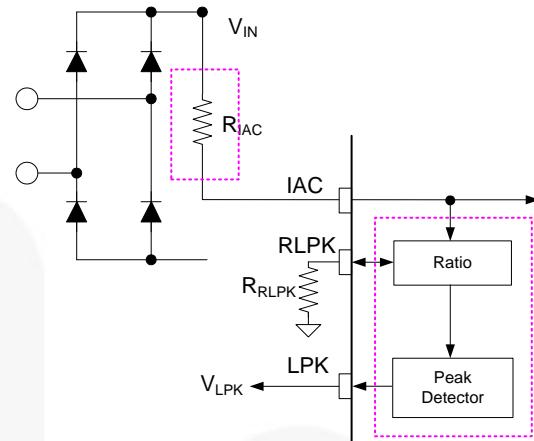

Figure 29. Relationship of $V_{IN.PK}$ to V_{LPK}
The relationship of $V_{IN.PK}$ to V_{LPK} is shown in Figure 29. The peak detection circuits detect the V_{IN} information from I_{AC} . RLPK sets the ratio of V_{IN} to V_{LPK} via a resistor R_{RLPK} , as described in Equation (8). The target value of V_{LPK} is one percent (1%) of $V_{IN.Pk}$. The maximum V_{LPK} cannot be over 3.8 V when system operation is at maximum AC input.